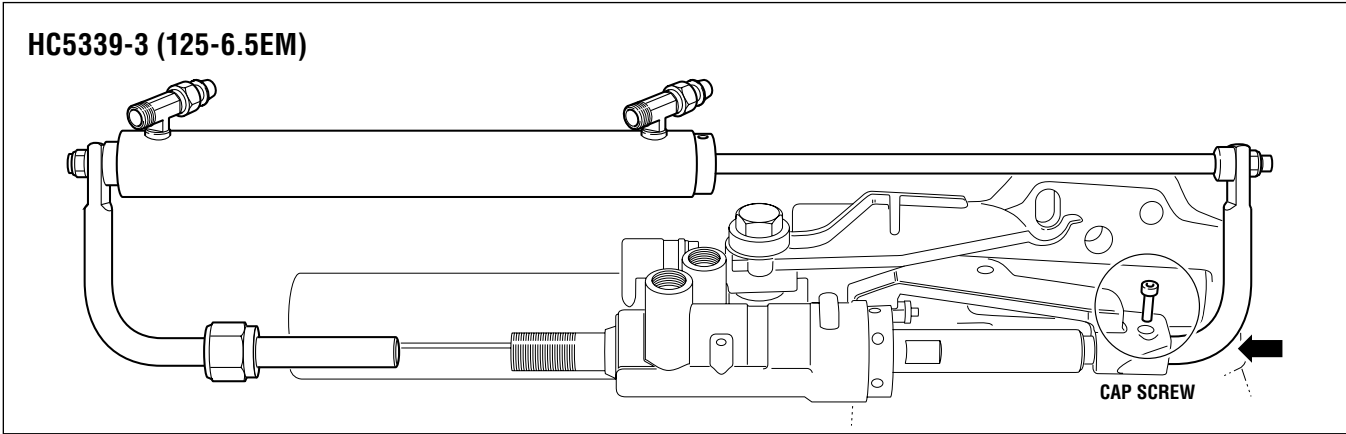

Figure 20.
2. Insert the long rod of the HC5339-3 cylinder into the clevis bracket until the through hole in the rod is aligned with the hole in the clevis bracket. Refer to figure 20.